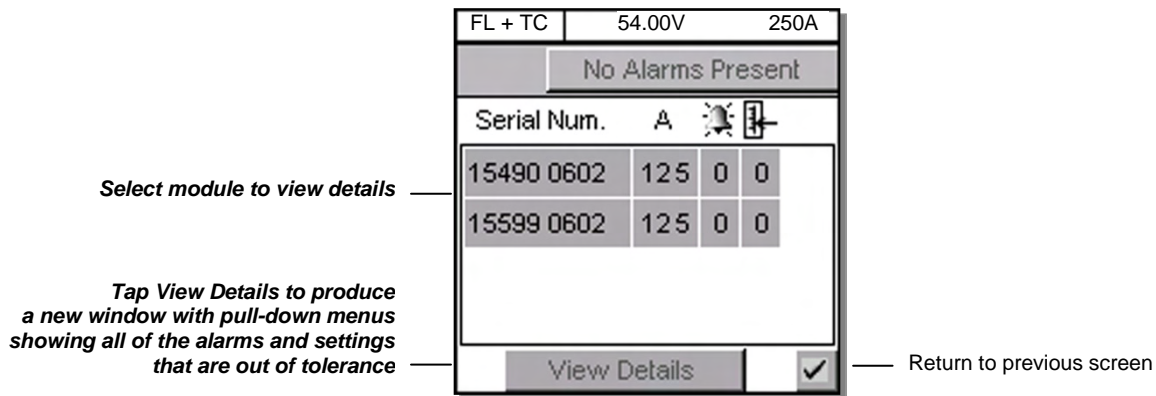

Figure 9—Rectifier (or Converter) report screen
A new active area will be displayed, see Figure 9 below. The first column lists the serial numbers of the modules. The report then displays the current output (A) of each module (or toggle for % of maximum output) and the number of active alarms (if that module is issuing an alarm). The rightmost column displays the number of settings out of tolerance (OOT per web interface).